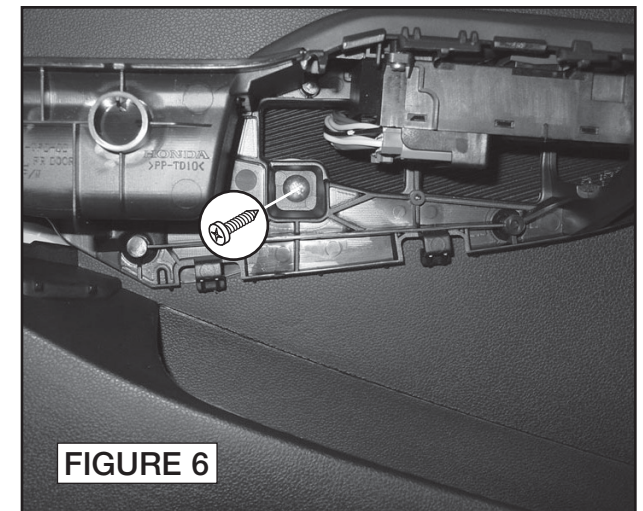

FIGURE 6
4. Remove one (1) phillips screw exposed by removal of lower armrest cover (Figure 6).
5. Remove one (1) phillips screw exposed by removal of lower armrest cover (Figure 6).